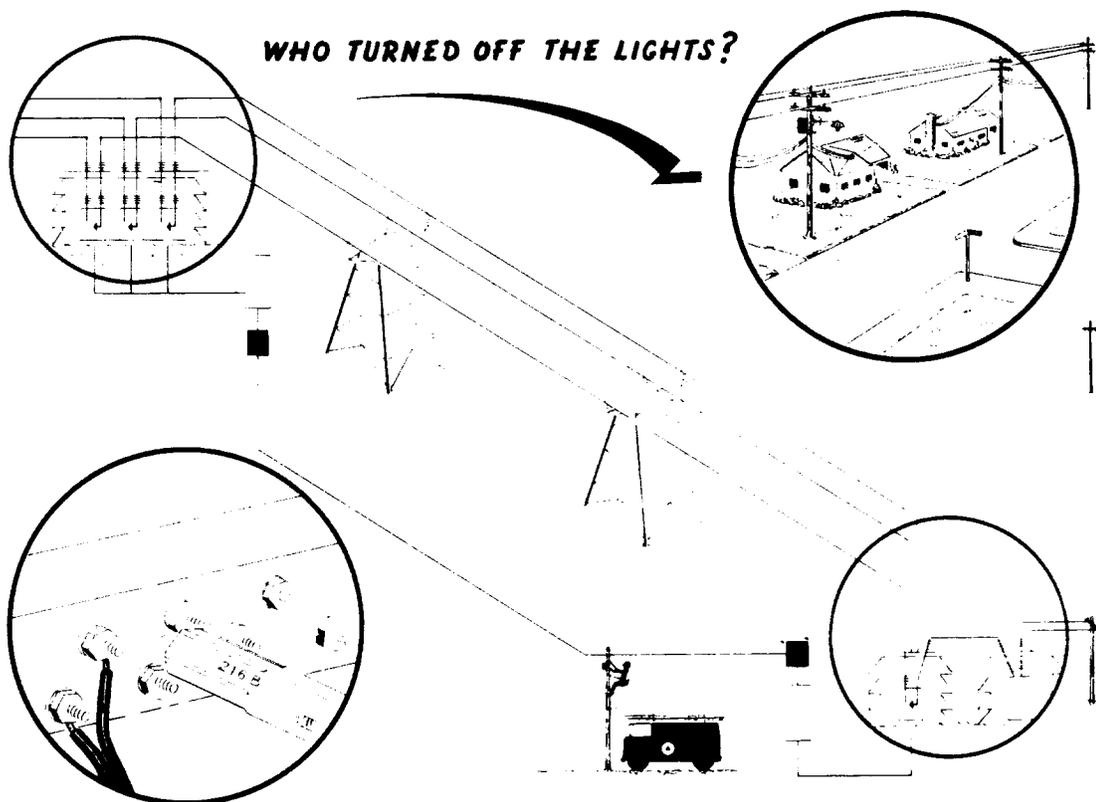

Figure 2 - Who Turned Off the Lights?
- Avoid shorting terminals when trying to locate a pair. Figure 2 shows what happens if you don't.